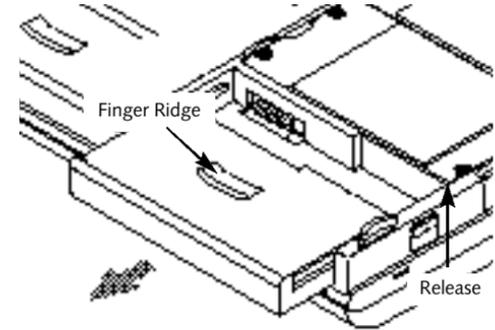

Figure 4-7 Removing the Battery Pack
3. Slide the Battery Eject Button on the left side of the notebook toward the bottom of the notebook. (Figure 4-7.)